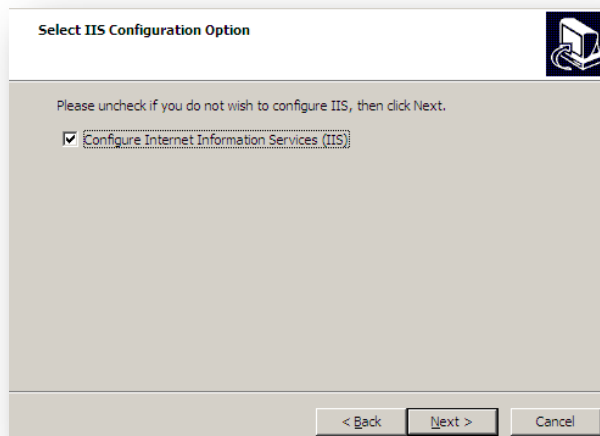

Figure 57 – Model 375 Web Page and Supervisor Service Installation (IIS Configuration Option)
6. From the Feature Selection screen, accept the defaults and click **Next**. See Figure 57.